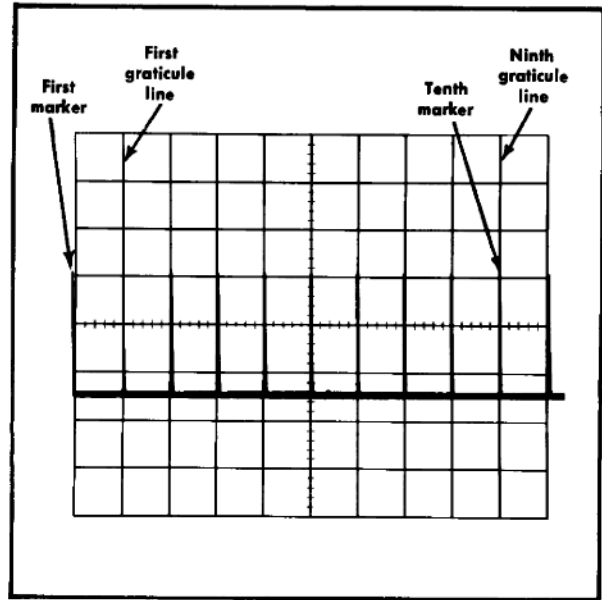

Fig. 5-2. Typical CRT display showing correct basic timing.
- e. CHECK—CRT display for one marker each division between the first and ninth vertical graticule lines (see Fig. 5-2).